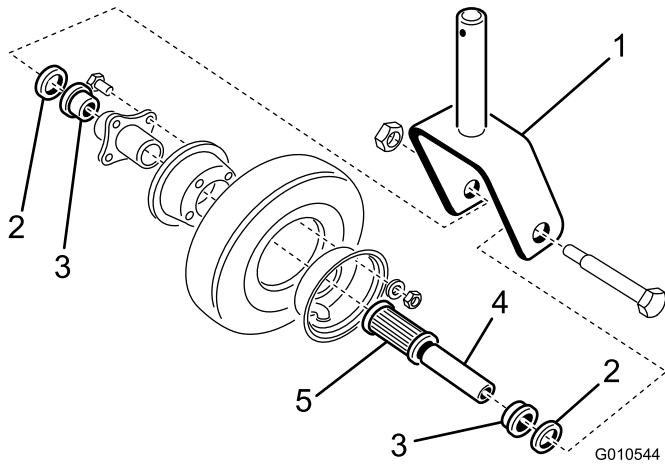

Figure 19
- Tip the wheel to the side and allow the spanner bushing (Figure 19) to fall out.
- Remove one bearing retainer from the wheel hub and allow the bearing to fall out. Remove the bearing retainer from the opposite side of the wheel hub (Figure 19).